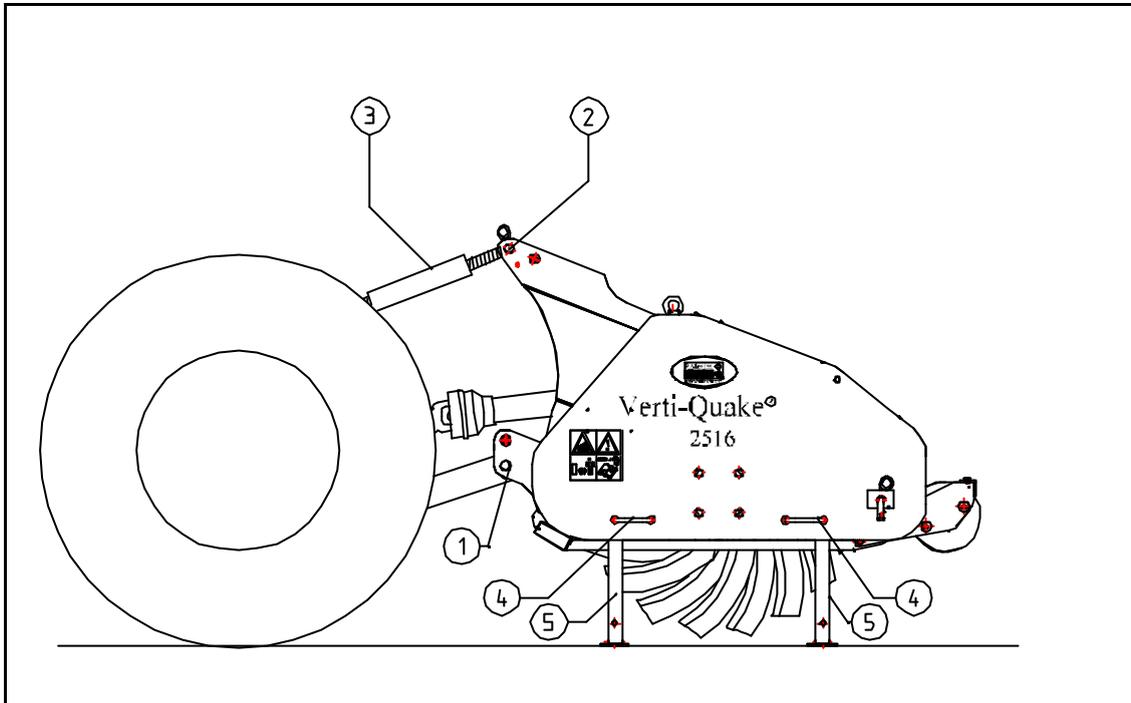

Fig. 11
5.0 CONNECTING TO THE TRACTOR (Fig. 11)
This is done as follows: (fig.11)